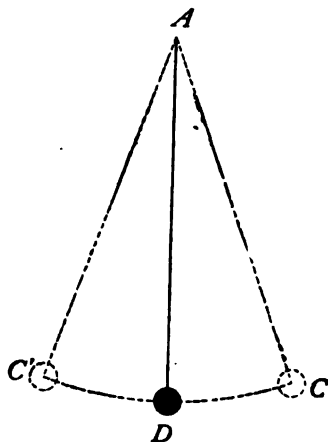

FIG. 81.—A simple pendulum.
**100. The Simple Pendulum.**—Any body suspended so as to swing freely to and fro is a pendulum, as in Fig. 81. A simple pendulum is defined as a single particle of matter suspended by a cord without weight. It is of course impossible to construct such a pendulum. A small metal ball suspended by a thread is approximately a simple pendulum. When allowed to swing its vibrations are made in equal times. This feature of the motion of a pendulum was first noticed by Galileo while watching the slow oscillations of a bronze chandelier suspended in the Cathedral in Pisa.
The *amplitude* of a vibration is one-half the arc through which it swings, for example, the arc  $DC$  or the angle  $DAC$  in Fig. 81.